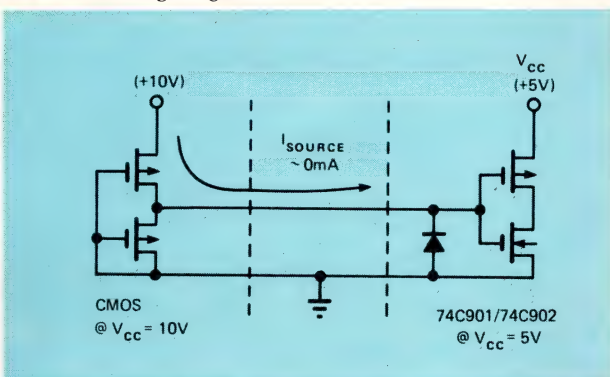
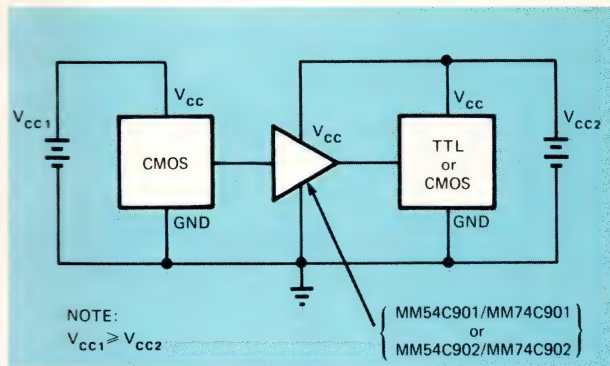

Fig. 5—Removing the upper diode in the 74C901/74C902 reduces the source current to the level of the leakage current of a reverse-biased diode.
Fig. 6—As long as $V_{CC1} \geq V_{CC2}$ and grounds are common, 74C901/74C902 can use any combination of supplies between 3 and 15V.
Fig. 5—IR laser makes possible this secure communication system. Features include nondetectable transmission and full duplex operation in a portable lightweight design.
Using the MM74C901 or MM74C902 eliminates the problem simply because these parts are designed with the upper diode removed (**Fig. 5**). Without this diode, the current being sourced goes from about 10 mA to the very low leakage current of the reverse-biased input diode.
While **Fig. 5** showed $V_{CC} = 10V$ on one system and $V_{CC} = 5V$ on the second, the MM74C901 and MM74C902 are capable of using any combination of supplies $3V < V_{CC} < 15V$, as long as $V_{CC1} \geq V_{CC2}$ and the grounds are common. **Fig. 6** diagrams this configuration.
4. From the output error signal shown in Fig. 5, calculate the phase detector gain constant K_ϕ .
5. Compute the gain constant, K_ϕ , for the phase detector transfer function shown in Fig. 6.